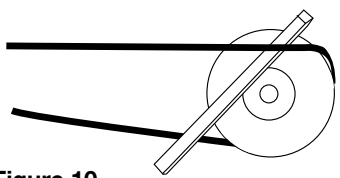

Figure 10
7. Always loosen tension enough to install belts without stretching. Do not force belt(s). Forcing the belts will break the cords and cause belt failure. See Figure 10.